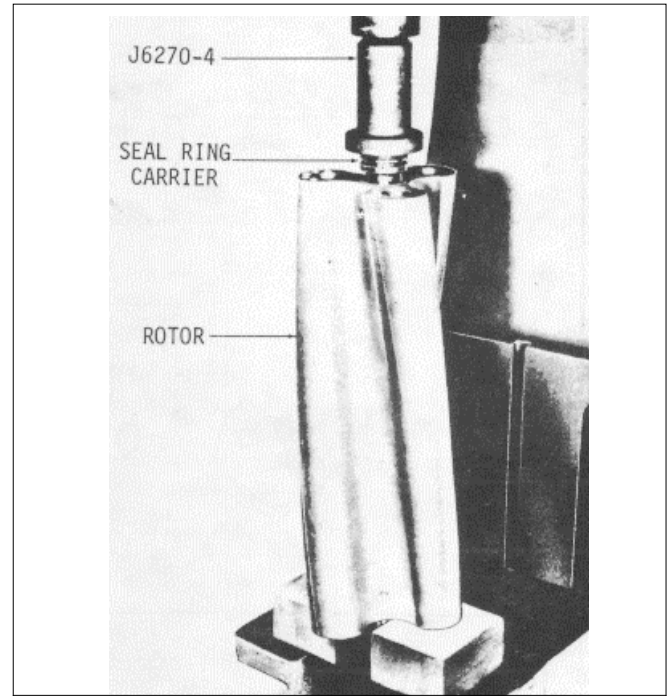

Fig. 12
- (2) If used, install the ring type oil seal, carriers, and collars on the rotor shafts and in the end plates as follows:
- (a) Support one of the rotor assemblies on wood blocks on the bed of an arbor press as shown in Fig. 12.